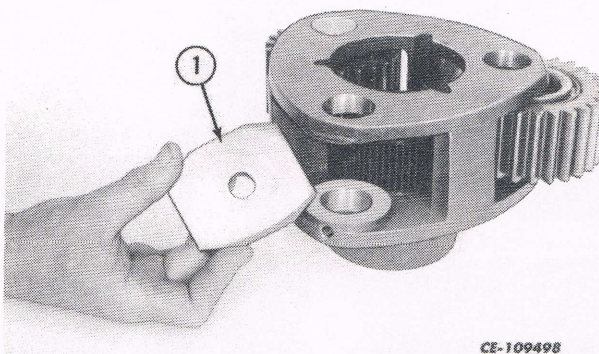

Fig. 9
3. Install the carrier retainer spacer (1, Fig. 9).